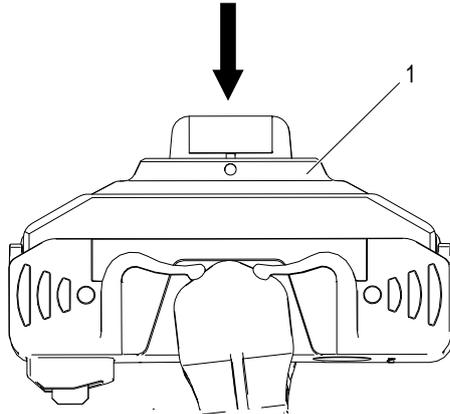

Fig. 185: Check collector housing ease of movement
→ Check the ease of movement of the collector housing (1) (see Fig. 185).